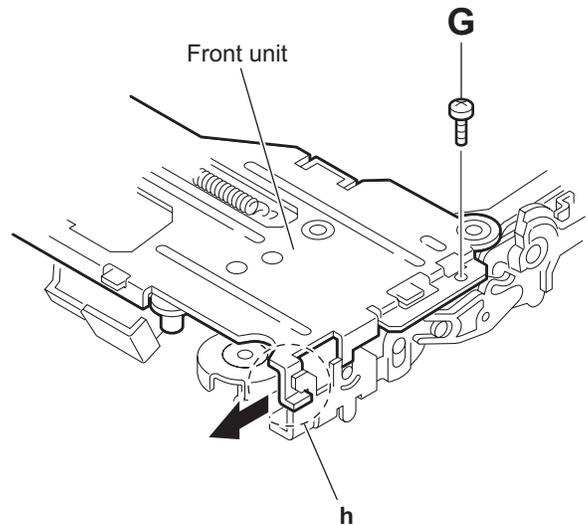

Fig.11
- (2) Remove the screw **G** attaching the front unit on the top of the body. (See Fig.11.)
- (3) Move the front unit toward the front to release joint **h**, and release two joints **i** and **j** on the right side of the chassis base assembly. Then remove the front unit upward. (See Figs.11 and 12.)